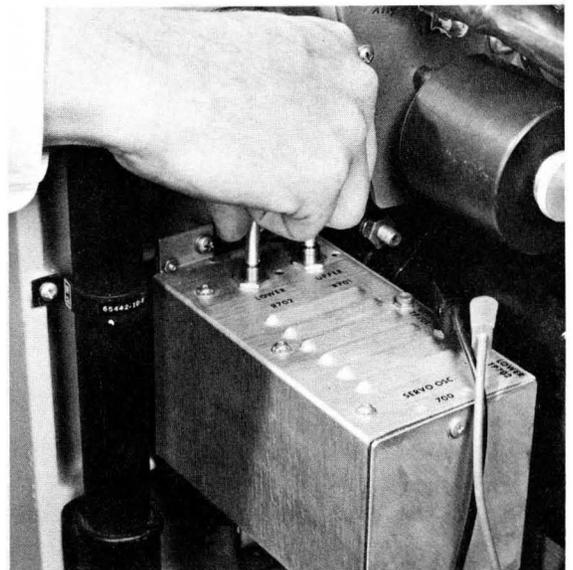

Figure 4-8.
- Step 2: Connect an ac voltmeter to TP702 and TP703 on the oscillator assembly at the rear of the transport (Figure 4-8) and adjust the LOWER servo gain control (also located on the oscillator assembly) to give a voltmeter reading of 5.8 volts rms.